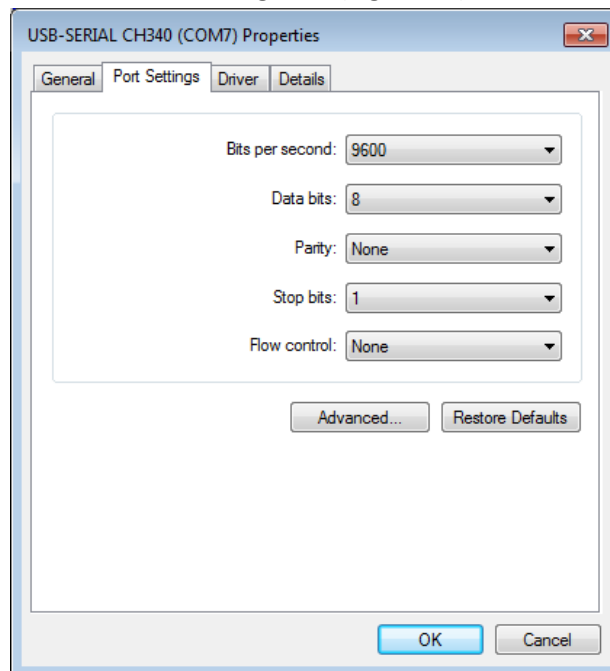

Figure 10
- c. Go to the Port Settings Tab (Figure 10).